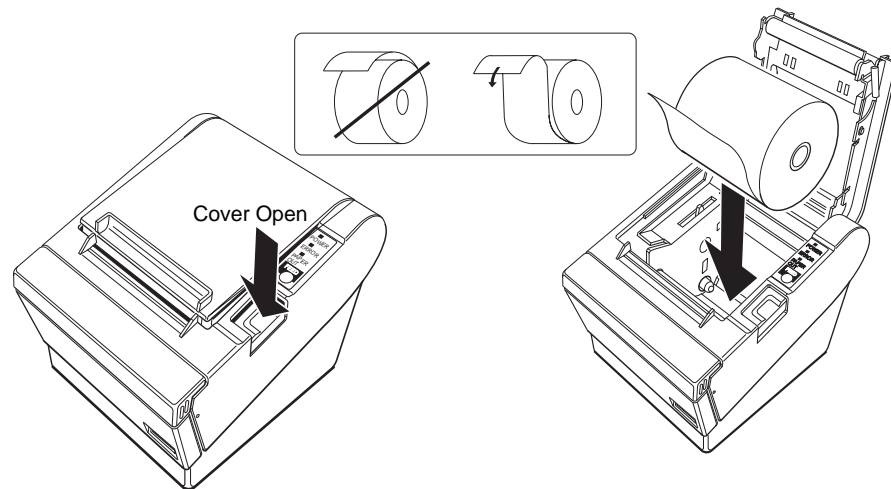

Figure 6.4 Insert Paper
- 2 If present, remove any used paper roll core. Insert the paper roll in the correct direction, as shown in Figure 6.4.